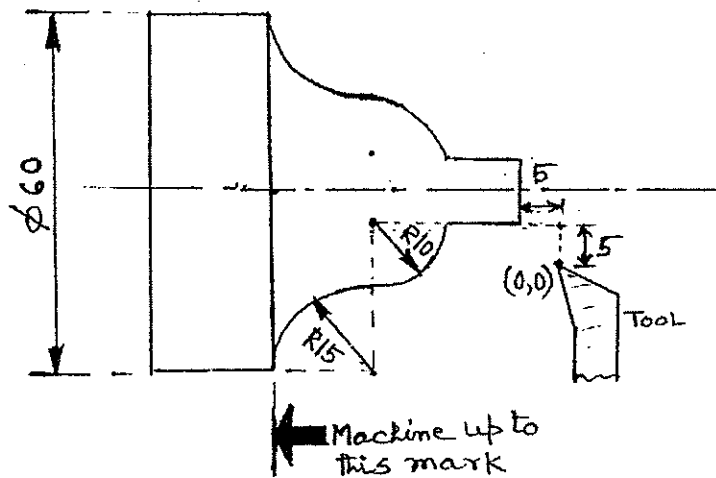

FIG. 1
- b) Write a manual part program for turning a job for the finishing cycle as shown in fig. 1 in a CNC lathe. 12